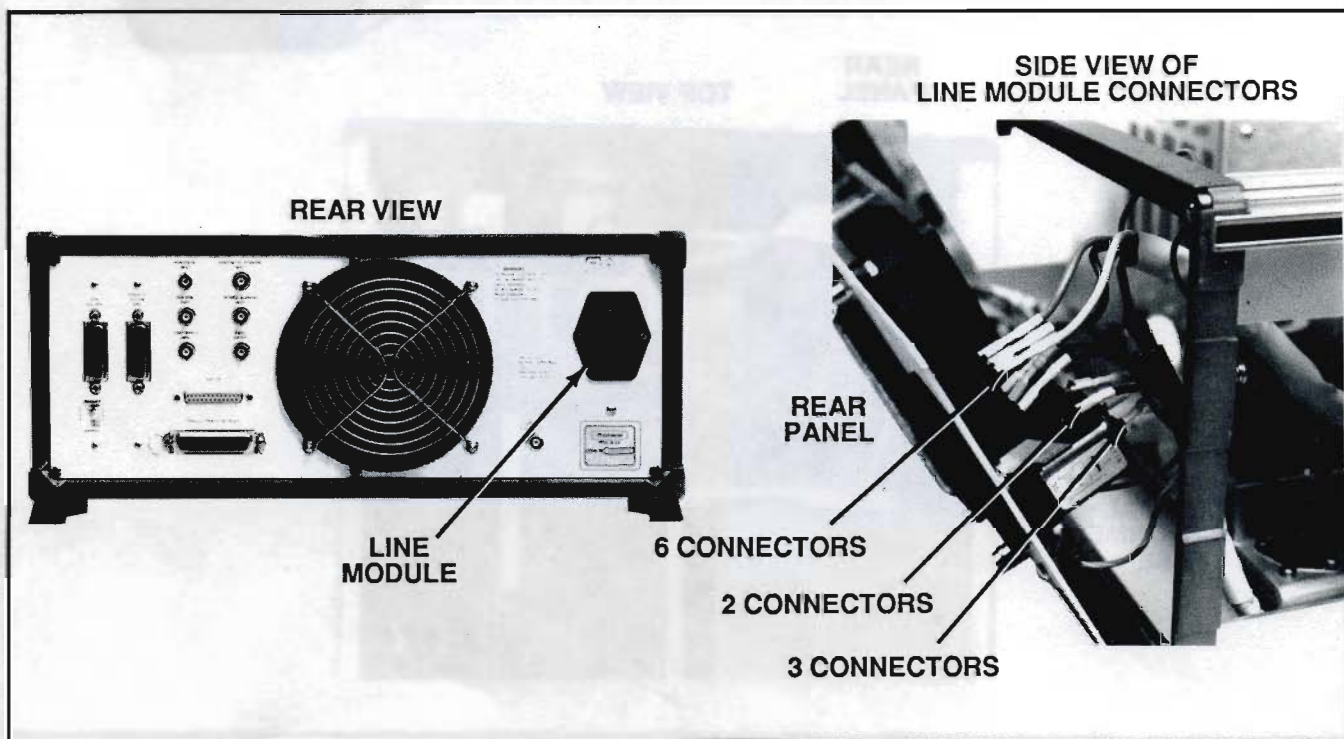

Figure 4-4. Replacing the Line Module
1. Remove the power cord from the line module (Figure 4-4).
3. Remove the ten connectors shown in Figure 4-4. Do not remove the grounding connector, since it is soldered to the line module.